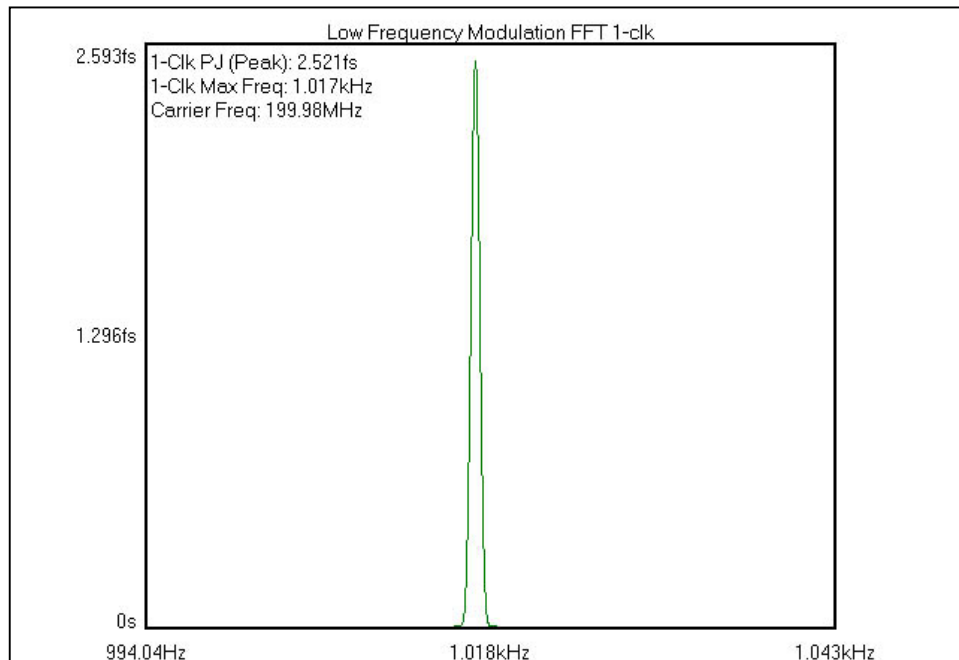
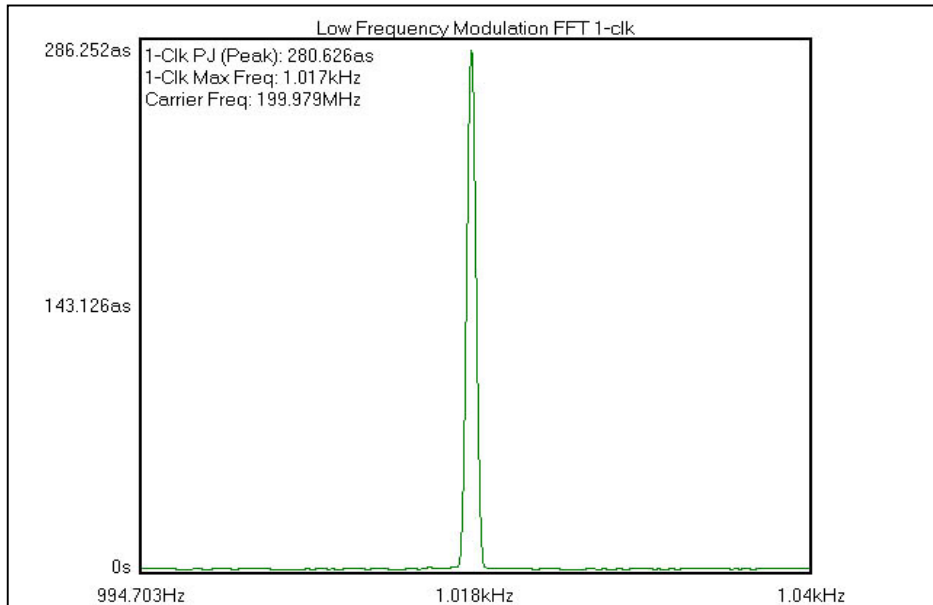
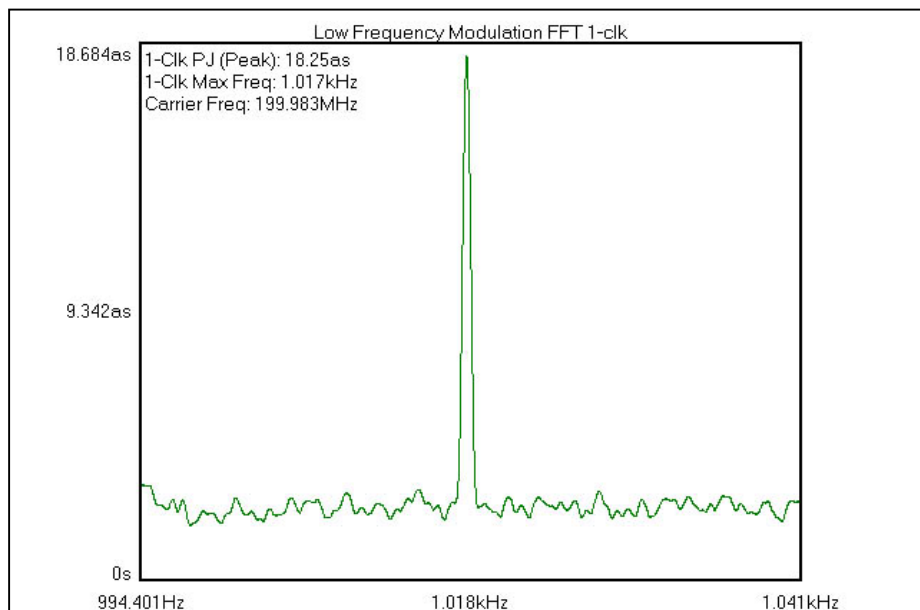

Figure 2 - 200MHz carrier, 1kHz modulation, 100Hz amplitude.
Figure 3 - 200MHz carrier, 1kHz modulation, 10Hz amplitude.
Figure 4 - 200MHz carrier. 1kHz modulation. 10Hz amplitude.
For example, if you have an offset frequency (FM) of 100Hz and a carrier frequency (f_0) of 200MHz the total jitter peak amplitude (TJ_{pk}) would be 100 divided by 2E8 squared or 2.5E-15 seconds or 2.5 femtoseconds (fs). Figure 2 shows the plot for this exact setup. The amplitude measured by the DTS-2077 is 2.521fs. This is less than a 1% error.
In the next example, the modulation frequency was decreased to 10Hz. The same carrier frequency and modulation frequency were used. Figure 3 illustrates the results. Using Equation (a) we get a modulated amplitude of 2.5E-16 or 250 attoseconds (as). Figure 3 shows that we actually measured 280.6as. This represents an error of 12.24%. But the delta (30.6as) is close to the delta in Figure 2 (21as). This error could be attributed to bleed-through in the HP's modulation circuitry. To verify this the modulation frequency is set to 0Hz. This is shown in Figure 4.
In this experiment the modulation amplitude that is expected is 0as. But, as Figure 4 shows, there is a peak with amplitude of 18.25as at 1.017kHz. This is the bleed-through of the modulation circuitry of the HP8648D.
So, if we estimate the modulation circuitry bleed-through to be 18.25as and subtract it from the previous measurements, we get an error of less than 0.2% for figure 2 and an error of less than 5% for figure 3 from the calculated value to the actual measured value.